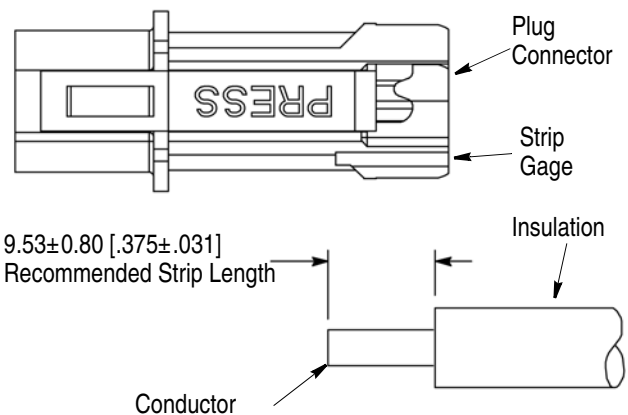

Figure 2
1. Strip wires with 18 AWG solid copper conductors having a maximum insulation diameter of 2.18 mm [.086 in.] to the dimensions provided in Figure 2.